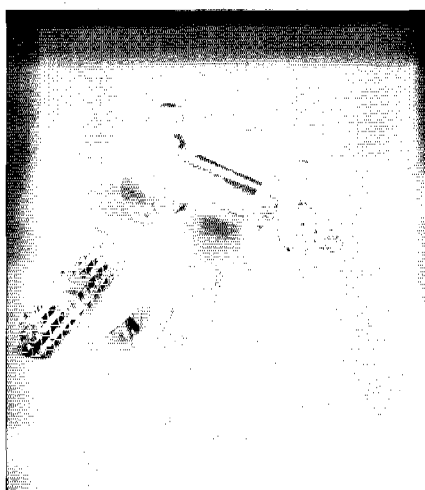

Figure 1. The Koch family of static mixers.
**T**here are many types of static mixers available (see Figure 1). The two most common types required for water and wastewater treatment are those designed for simple mixing of miscible fluids, and those designed for mixing fluids that are prone to plugging due to the solids in the fluid.